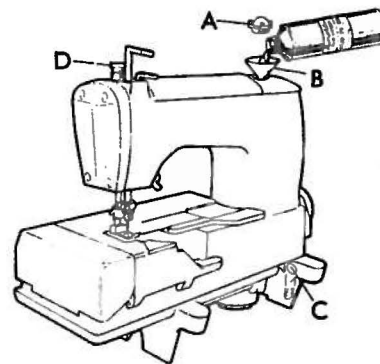

fig. 2
c) Filling the oil basin (fig.2)